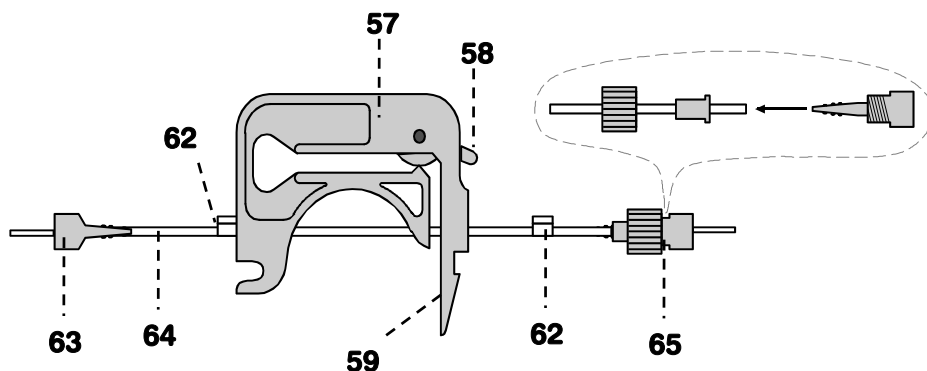

Figure 10: Pump tubing for sample path
Fit a coupling with tubing security device **65** 6.2744.160 onto the right-hand end of the pump tubing **64** 6.1826.110 (see *Figure 10*):
- Insert the fitted pump tubing **64**, as shown in *Figure 10*, into the tubing cartridge. The left-hand stopper **62** should engage in the corresponding fixture on the left-hand side of the tubing cartridge when doing this.